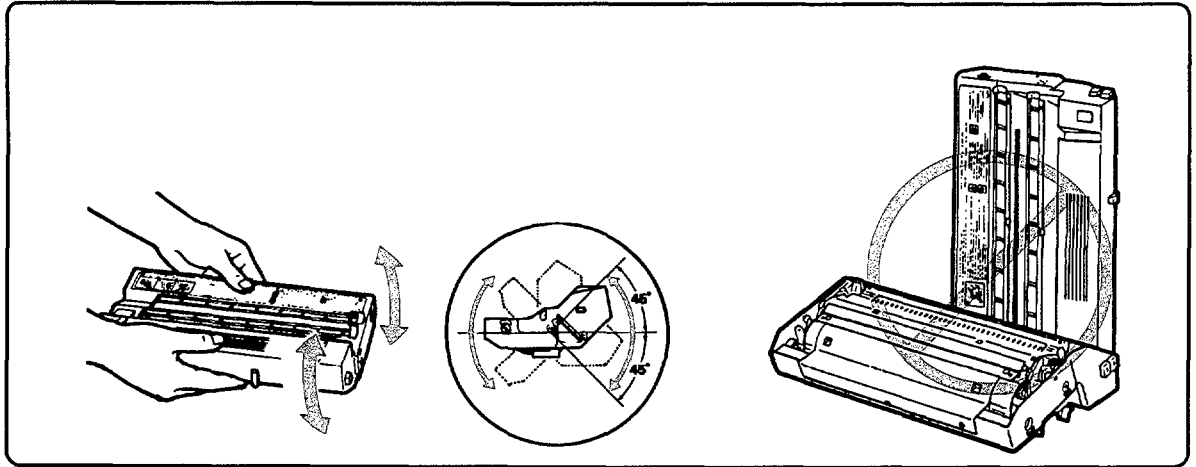

Figure 2-2. Toner Distribution and Storage
1. When installing a cartridge, slowly rock it 45 degrees about its long axis (see Figure 2-2) about five times to distribute the toner evenly.
2. As shown in Figure 2-2, do not stand the cartridge upright, invert it, or handle it roughly.